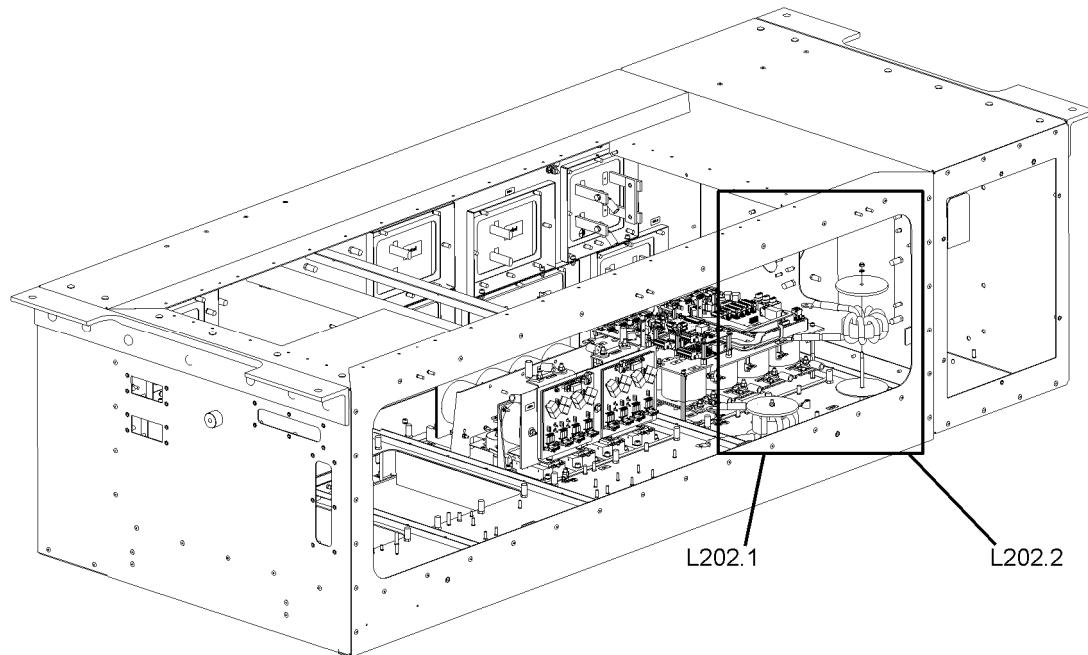

Figure 5-21: Location of L202.1 & L202.2
3. Locate L202.1 and or L202.2. See Figure 5-21 for the location of the choke(s) to be removed. The L202.1 is on the side closer to the SRC module and the L202.2 is on the side farther from to the SRC module.